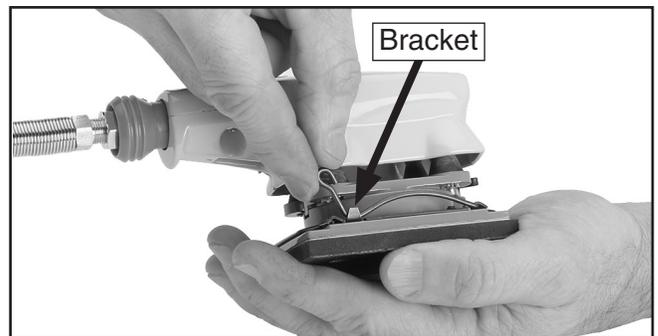

Figure 2. Opening clamp.
3. Lift one clamp up over the bracket (**Figure 2**), then pull the clamp down to open it.